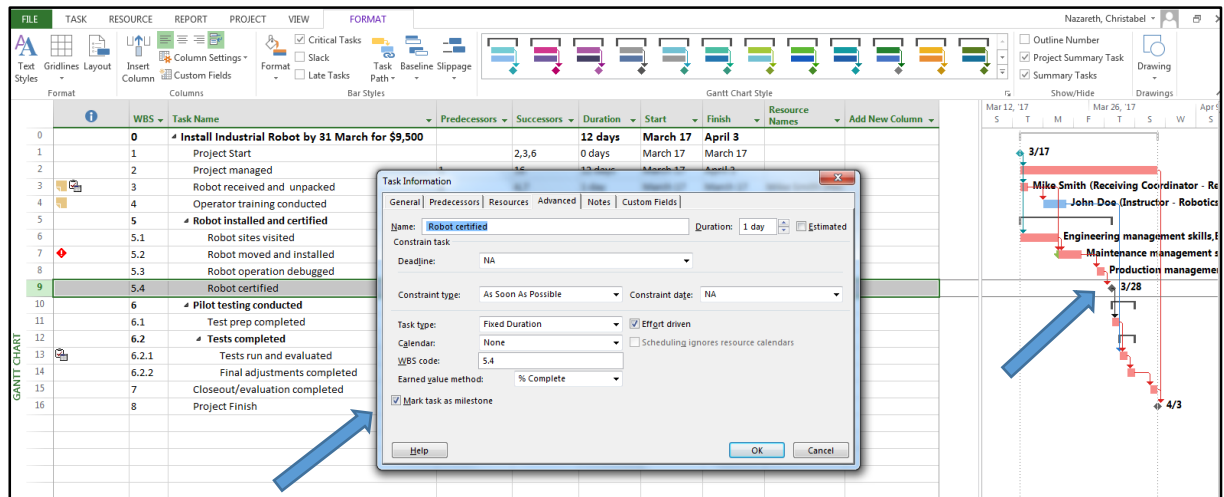

Figure 26
- Milestones are displayed on the Gantt as a black diamond. (Figure 26)